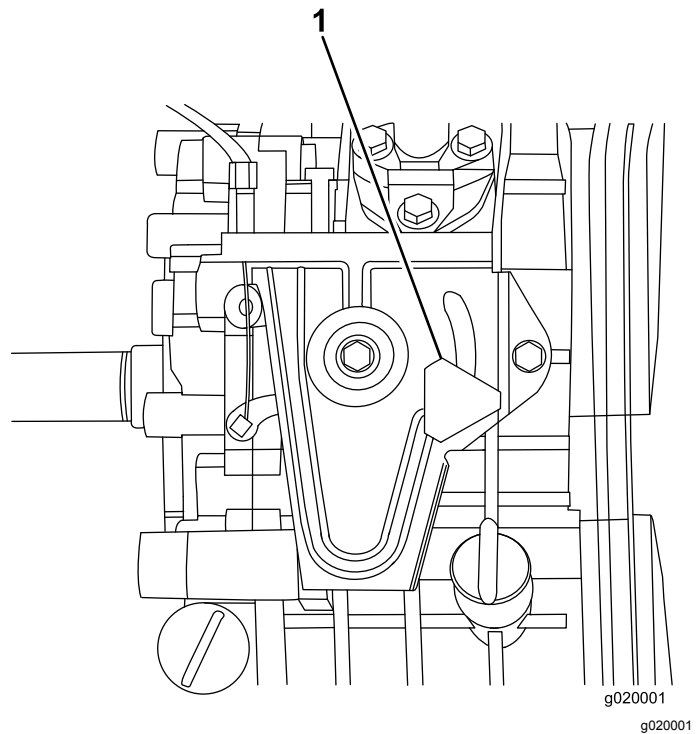

Figure 26
3. Ensure that the engine-speed-control knob on the engine is loose by rotating it counterclockwise (Figure 26).